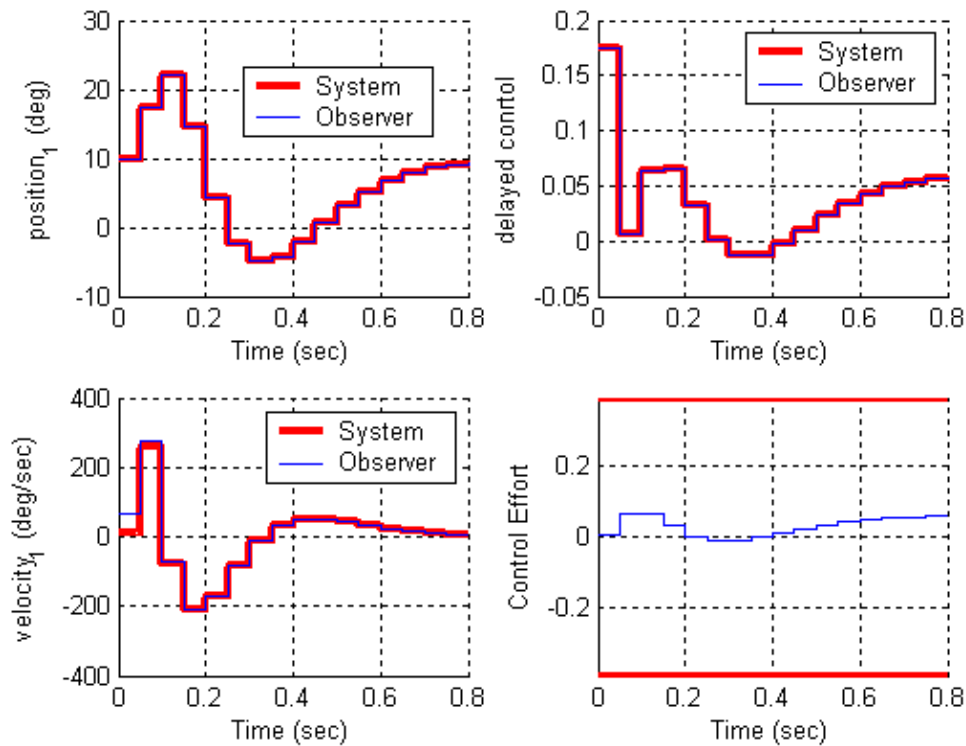

Figure 5. Results for problem **2c**.
c) Now assume the same initial conditions as in part **b**, but both the position of the disk and the delayed input signal are known. The observer pole is placed at 0.3 and the sampling interval is still at 0.05. For a 10 degree step input you should get the graph shown in Figure 5. Turn in your plot.